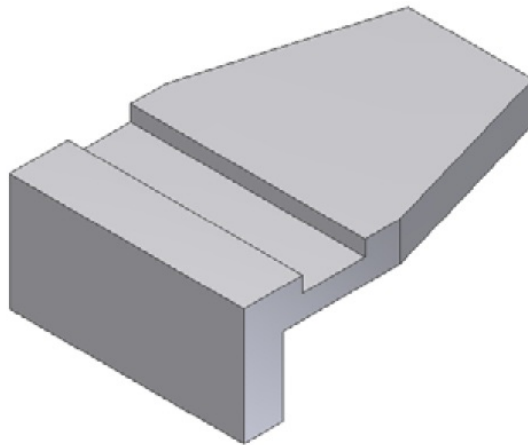

Figure 5-100 Model after extruding
- b. Create a join feature on the top face of the base feature, refer to Figure 5-100.
4. Extrude the sketch in the downward direction to a distance of 10 mm, see Figure 5-100.